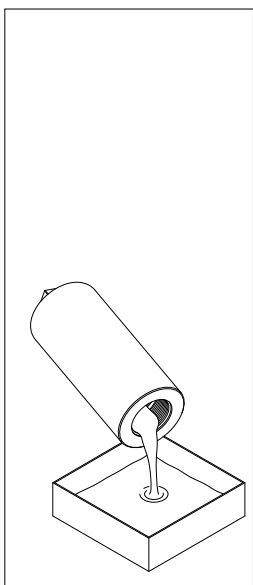

fig. 7
- (Fig. 7) Empty the operating fluid from the bowl into the collection vessel